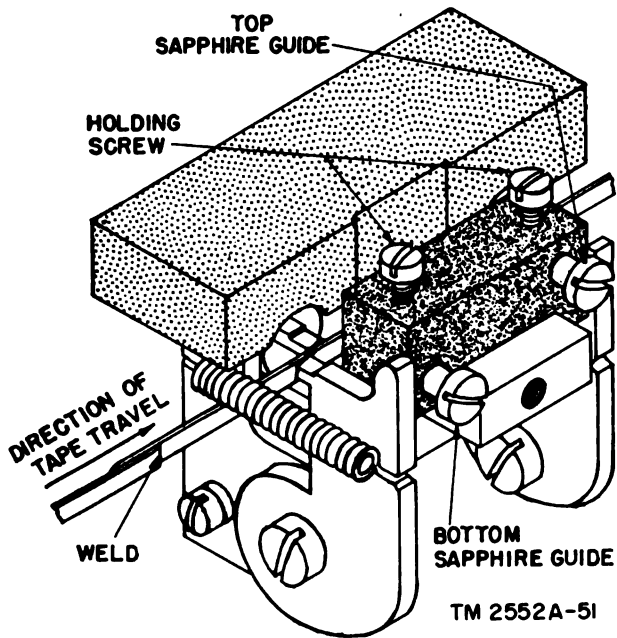

Figure 47. Recorder-reproducer head, details.
- (5) Loosen the holding screws (fig. 47) and pull out the top sapphire guides just enough to clear the tape.
- (6) Lift the tape from between the pole pieces by opening the jaw of each pole piece, one at a time, and by slipping the tape out.
- (7) Slide the tape off the pulleys and lift it out.
- (1) To replace the tape, follow the steps outlined in *b*(1), (2), (3), (4), and (5) above.
- (2) Pull down the arms on the side of the tape wipers to separate the pads.
- (3) Place the tape over the pulleys. Note the weld in the tape. It should face the outside as shown in figure 47. If the movable pole piece is not closer to the weld than the fixed pole piece in the direction of tape travel, serious dam-